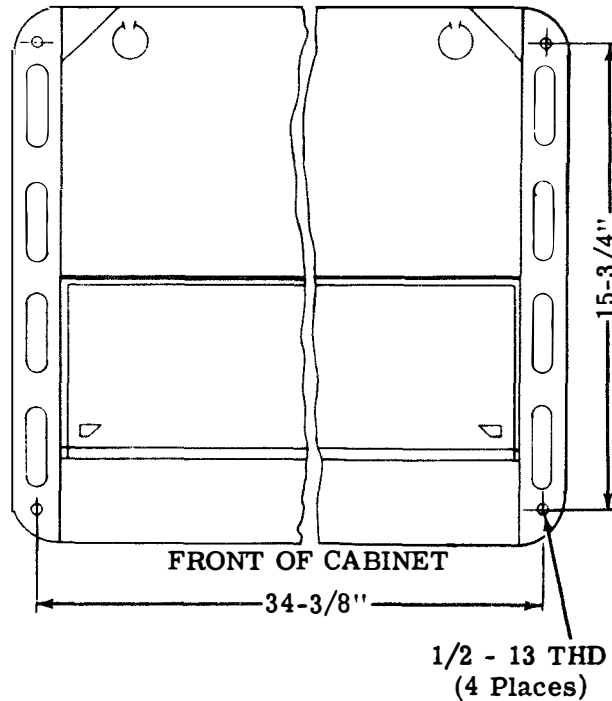

Figure 8-3. Securing Automatic Send-Receive Cabinet to Mounting Surface, Bottom View
(1) Adjust the four feet of the cabinet using a 3/4-inch open-end wrench, until cabinet is level. If desired, a maximum of one-inch increase in cabinet height may be obtained by this adjustment. This adjustment may be modified at time of station installation, if necessary. Refer to Figure 8-3. If it is desirable to secure cabinet directly to a mounting surface, remove and discard the four feet.
(2) In selecting mounting bolts to be used, make certain that they are of such length as to engage all the threads in holes from which feet have been removed.